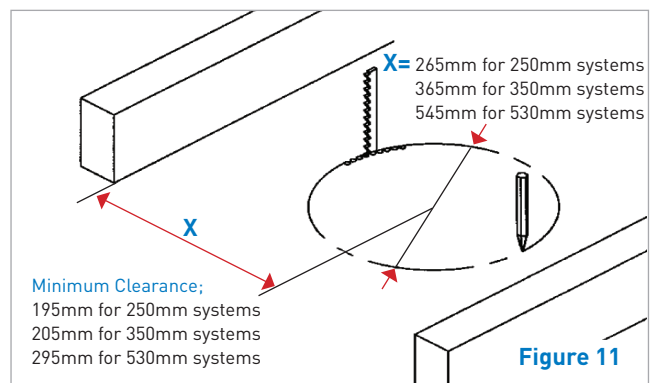

Figure 11
- Position the supplied hole cutting template on the centre point and mark a circle on the ceiling surface. For reference, the diameter is as follows: For 250mm systems this is 265mm, for 350mm systems this is 365mm and for 530mm systems this is 545mm. Then using a jigsaw or pad saw carefully cut around the circle. Alternatively a series of holes can be drilled around the circumference of the circle on the inside of the line and the intermediate sections then cut with a pad saw or coping saw (Figure 11).